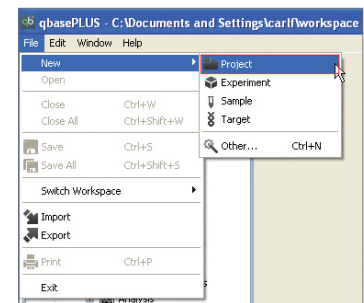

Fig. 6. Creating a new project folder.
2. Create a new project folder by selecting **File > New > Project** in the main menu (Figure 6).